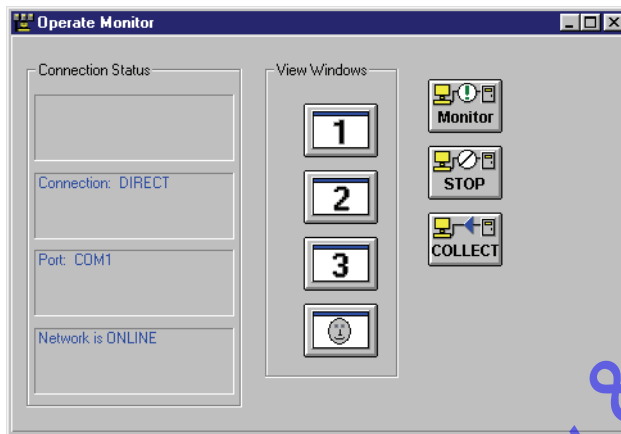

Figure 5-42: Operate Monitor Window
- To enter the Operate Monitor window, click on the Operate ⇒ Start Monitor pull-down menu or click on the  icon on the tool bar. The Operate Monitor window appears (see Figure 5-42).
The Connection Status field displays the communication connection status between host computer and access control network. Within the connection status field four panes with information (see Figure 5-42). From top to bottom:
The view window field is made up of three buttons: , , and ; one for each monitoring window (see Figure 5-42 on page 40 of this section).
1. From the Operate Monitor window (see Figure 5-42 on page 40 of this section), click on the  button. If communication has not been established between the host computer and the access control network, *Doors* will make the connection.
2. Pane 1 in the communication status field will display event collection status as each controller is contacted (see Figure 5-42 on page 40 of this section). When complete, Pane 1 will go blank.
1. Click on the  button in the Operate Monitor window (see Figure 5-42 on page 40 of this section). This ends the monitoring process but does not close the monitoring windows or the communication link between host computer and access control network.